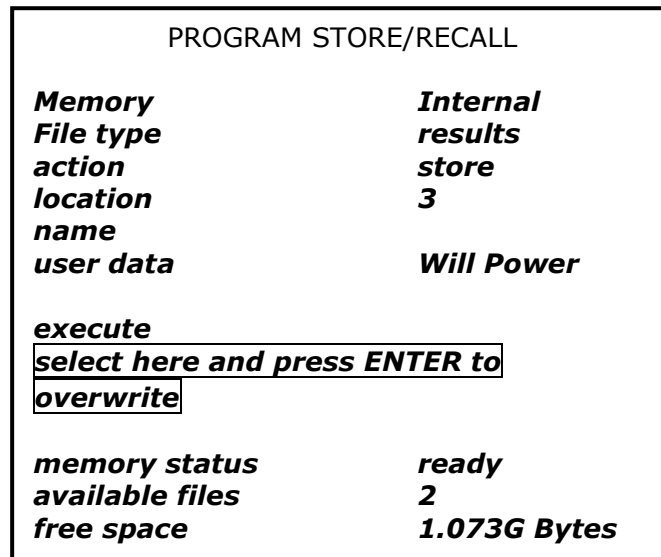

Figure 16.1
- This example shows the steps necessary to store and recall a set of sweep results. It assumes you have already carried out a sweep and either displayed a table of results or a graph from that sweep. Figure 16.1 displays the "Program Store/Recall" screen.